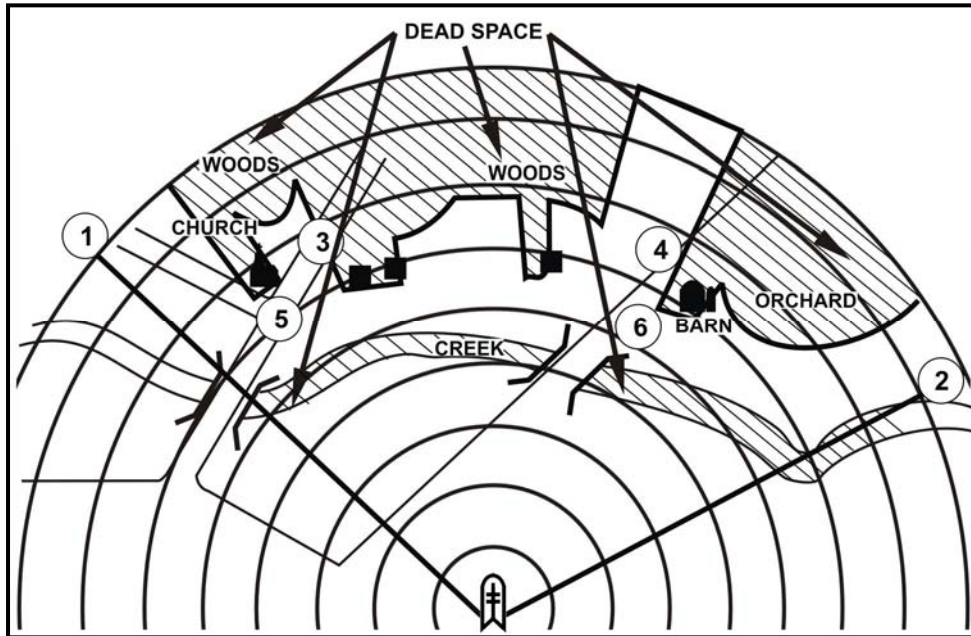

Figure D-9. Dead space.
g. **Dead Space.** Dead space is an area inside a gunner's sector of fire and inside the range of his weapons system where he can neither observe nor place direct fire. Any area in which a gunner does not have line of sight is considered dead space (Figure D-9, page D-8). Buildings, trees, hills, or other terrain features can cause dead space. Shade these areas using diagonal lines to indicate significant dead space in the sector. These areas can then be identified as areas for indirect fire weapons.